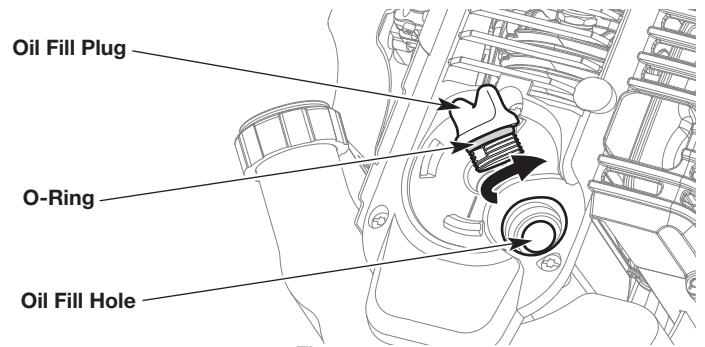

Fig. 14
3. Clean the area around the oil fill plug (Fig. 14) to prevent debris from entering the oil fill hole (Fig. 14).
7. Make sure the O-ring is in place on the oil fill plug (Fig. 14).
1. Clean the area around the oil fill plug (Fig. 14) to prevent debris from entering the oil fill hole.